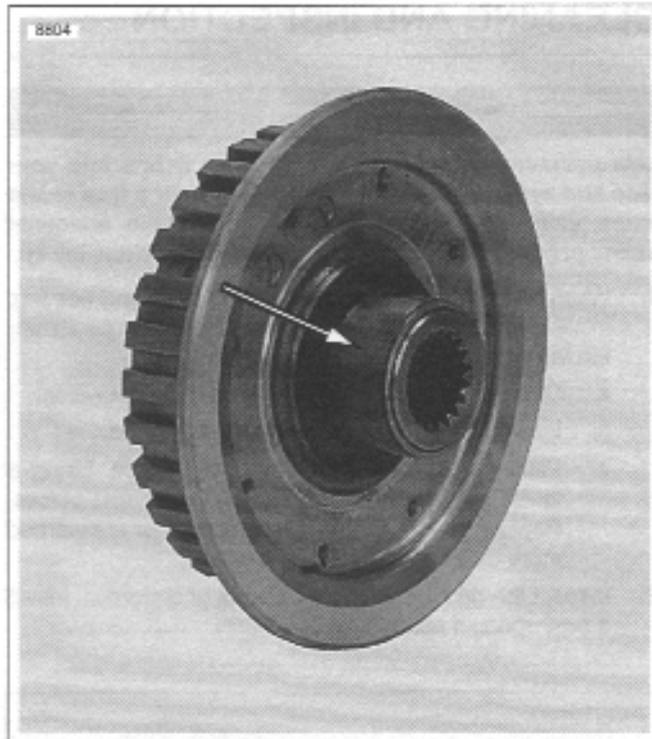

Figure 6-25. Clutch Hub Bearing Race
7. See Figure 6-25. Inspect clutch shell bearing inner race on the back side of the clutch hub for pitting and wear. If the inner race shows any of these signs the complete hub assembly must be replaced.